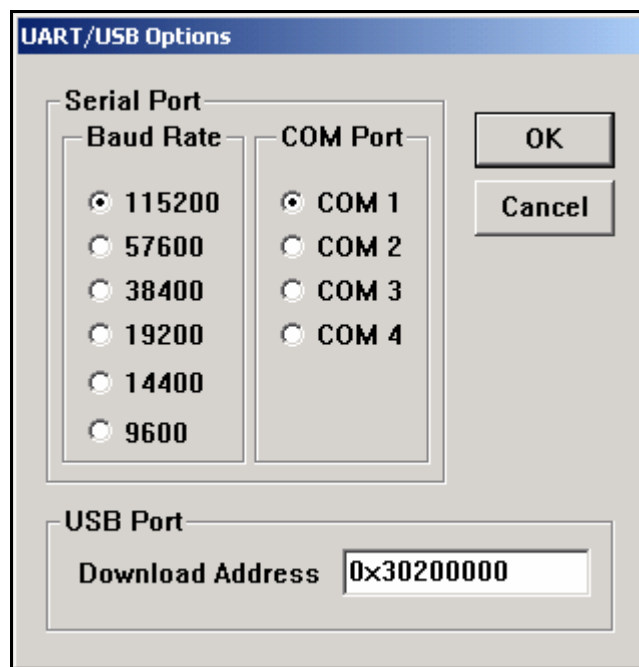

Figure 5-2 UART/USB Options
4. Now select 'Options' from the 'Configuration' menu to set the UART/USB options. The following window will appear on your screen. Select the Baud Rate and COM Port as shown in the figure 5-2, enter the download address as '0x30200000' and then click on the 'OK' button to continue.